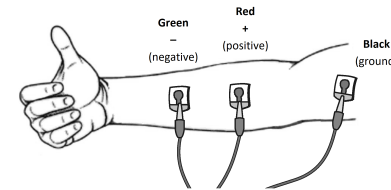

Figure 2
1. Place two electrode tabs along the length of the muscle of interest. A third electrode tab should be placed above or below the nearest joint to serve as a ground. For example, to record from the muscles of the ventral forearm, attach three electrode tabs to the subject as shown in Figure 2. Two electrode tabs should be placed on the ventral forearm, 5 and 10 cm from the medial epicondyle with the ground electrode on the upper arm. Alternatively, the ground electrode can be placed on the wrist of the other arm to minimize movement artifacts.